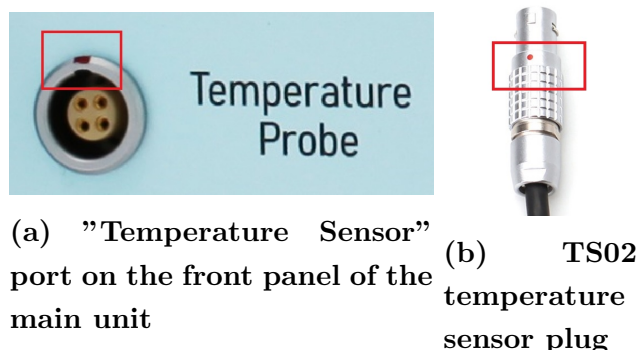

Figure 7: Usage of the LEMO connector for the temperature sensor
Step 3: Connect the TS02 temperature sensor (PT100 platinum resistor, Figure 2f) to the "Temperature" port on the front panel of the main unit. Ensure that the red marker on the LEMO connector (aviation plug) aligns with the red marker on the port, and the red dot on the plug, as shown in Figure 7. Note: If you do not feel a clear "click" sound when inserting, do not push in using force. Remove the connector and check the condition of the internal copper pins to ensure they are not bent. Additionally, **search for "how to plug and unplug LEMO connectors"** in google for guidance.